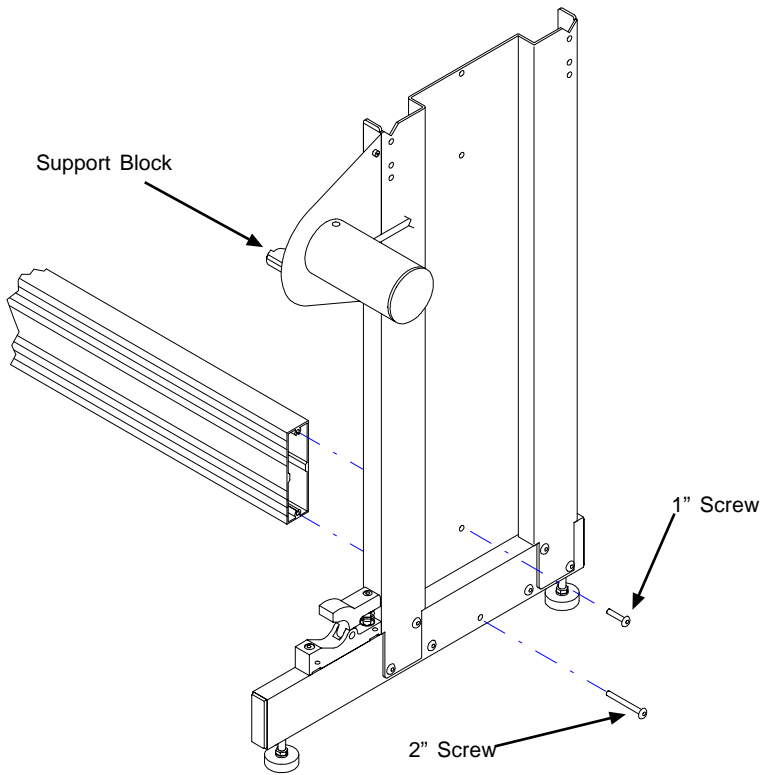

Figure 3. Attaching the lower crossmember to the right leg.
1. Attach one crossmember to the lower position on the right leg assembly. Use a 2" button-head screw for the lower hole and a 1" button-head screw for the upper hole. Make sure that the crossmember and support block are on the same side and that the crossmember is flush with the leg. See *Figure 3*.